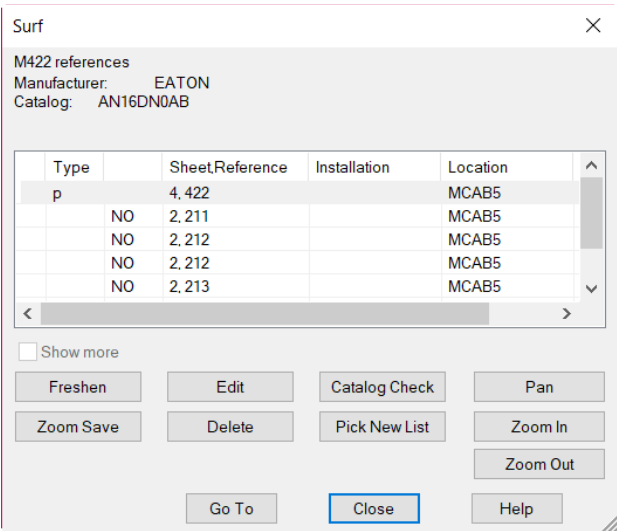

Figure 6-58 The Surf dialog box
3. Choose the **Surfer** tool from the **Other Tools** panel of the **Project** tab; you are prompted to select tag for surfer trace. Select the **M422** tag corresponding to the ladder reference number 422; the **Surf** dialog box is displayed, as shown in Figure 6-58.